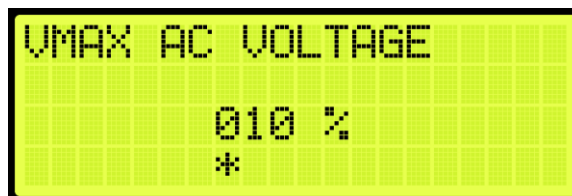

Figure 314: VMAX AC VOLTAGE Menu
5. From the VMAX AC VOLTAGE menu, set the percentage of the maximum voltage (See Figure 314).